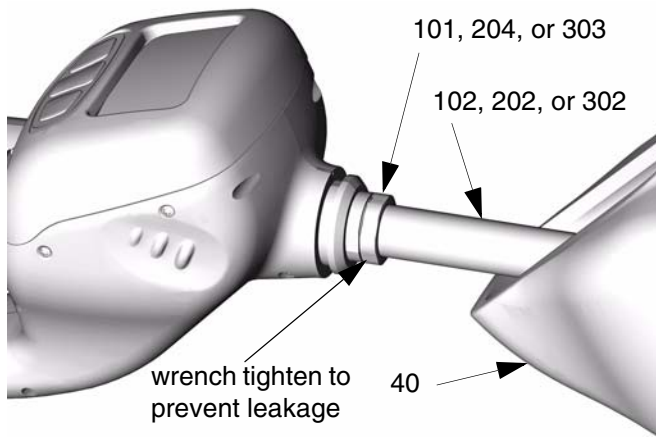

FIG. 7
1. Slide the impact guard (40) onto the tube or hose of the nozzle extension assembly. See FIG. 7.
3. Thread the tube or hose in at least three full turns, position it for proper alignment, and wrench tighten the sealing nut. The PTFE seal on the sealing nut must face the valve housing. See FIG. 7.
4. Slide the impact guard (40) over the meter body.